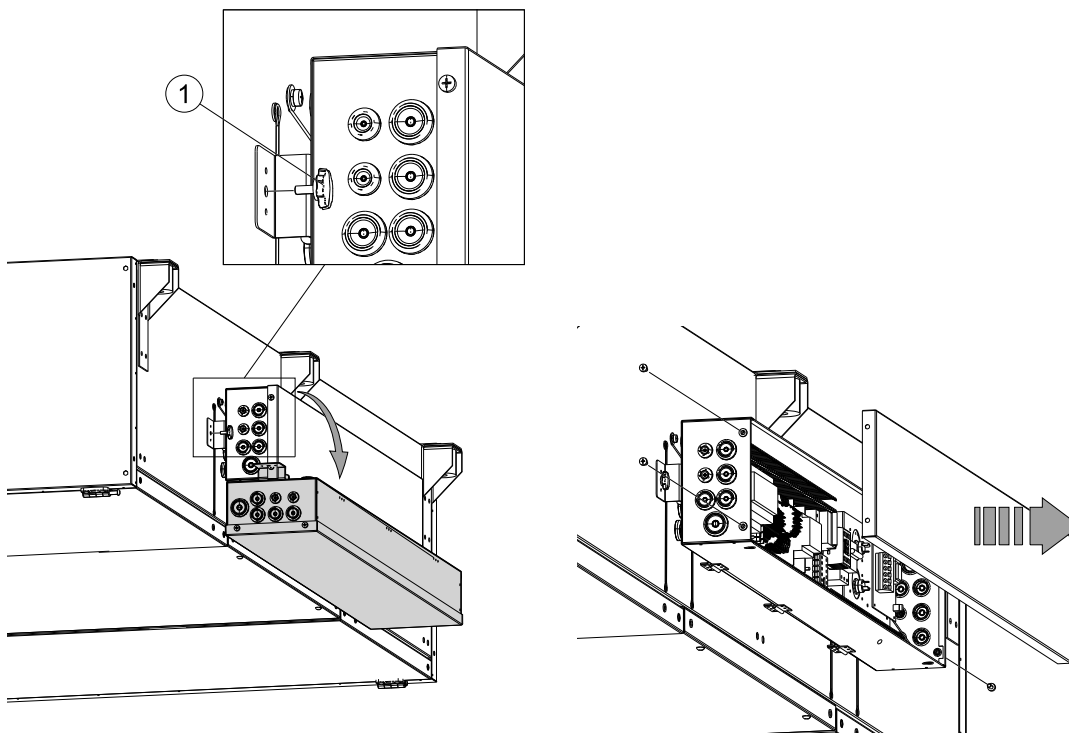

Fig. 8
All electric connections are made in the electrical connection box which can be found on the long side of the unit. The electrical box can be tilted for easy access by loosening the grip screw (figure 8, pos 1). The hatch is removed by unscrewing four screws (figure 8).